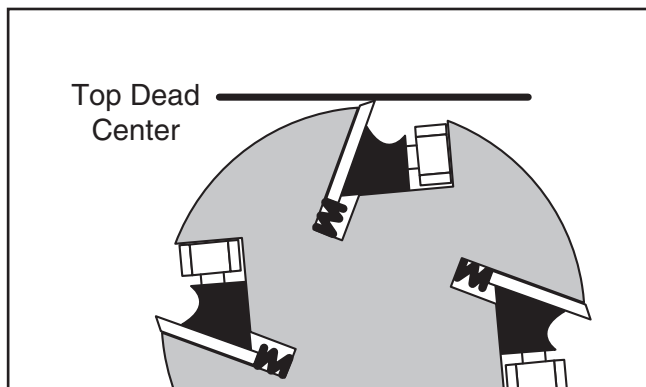

Figure 44. Cutterhead knife at top-dead-center.
2. Rotate the cutterhead pulley until one of the knives is at top-dead-center (TDC), as illustrated in **Figure 44**.